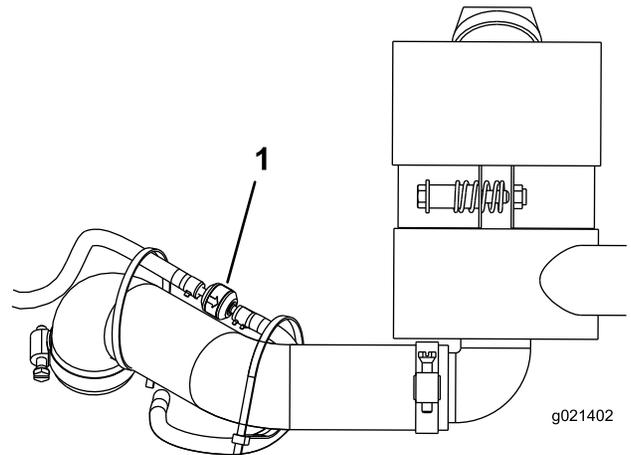

Figure 45
1. Loosen the hose clamps securing the carbon canister air filter to the hoses (Figure 45). The carbon canister hoses and air filter are cable tied to the air cleaner hose.
3. Remove and discard the carbon canister air filter (Figure 45). Note the direction the arrow is pointing on the filter.